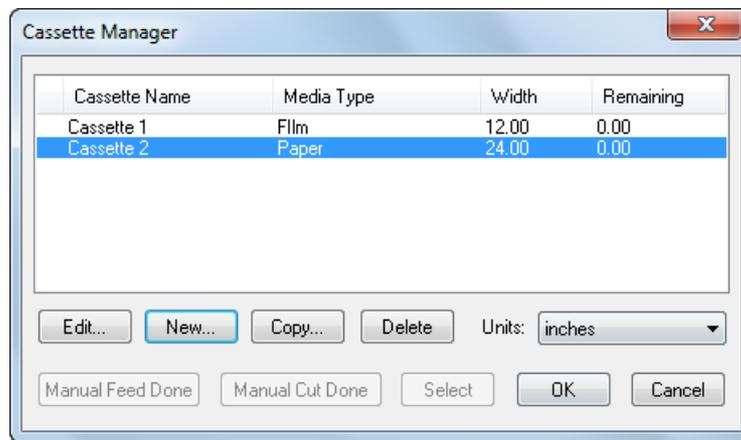

Figure 9.4 Cassette Manager dialog box
Before processing any jobs, you need to tell the RIP about the cassettes you are using and give details of the media currently in each cassette. You do this from the Cassette Manager dialog box. Click the **Cassette Manager** button in the Edit Page Setup dialog box or choose **Output > Cassette Manager** to open the Cassette Manager dialog box, as shown in Figure 9.4.
- * If you perform a manual operation by using controls on the output device, you must inform the RIP. Display the Cassette Manager and click the button **Manual Cut Done** or **Manual Feed Done** whenever you perform the corresponding manual operation. See Figure 9.4, page 266, and the following description of the buttons.